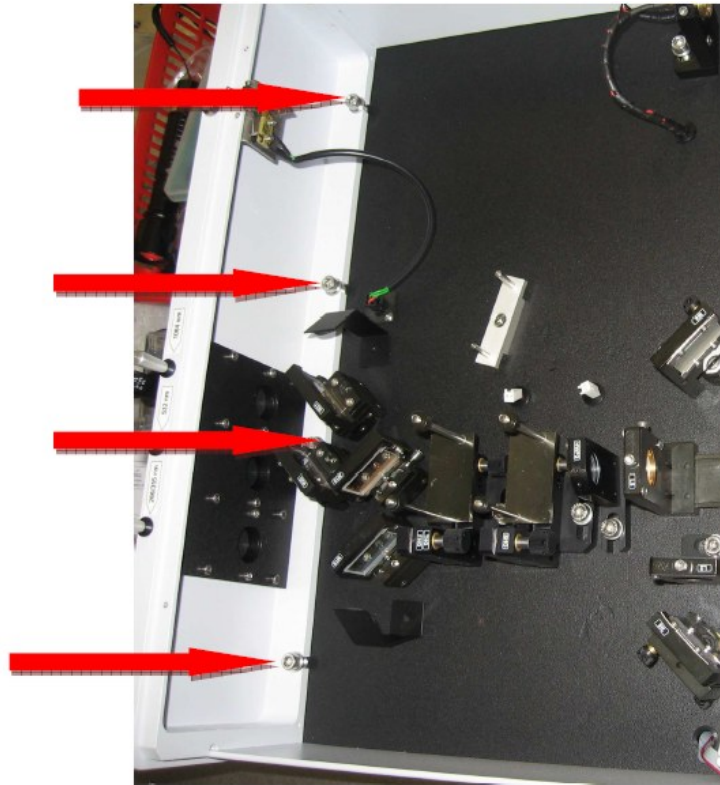

Figure 9 Relieve fixing bolts (marked by red arrows)
6. Relieve the bolts fixing both end panels to the inner breadboard pedestal to the extent (roughly for 90 degrees) that panels can move freely a little, see Figure 9. This makes breadboard less sensitive to tensions caused by thermal expansion of the panels.